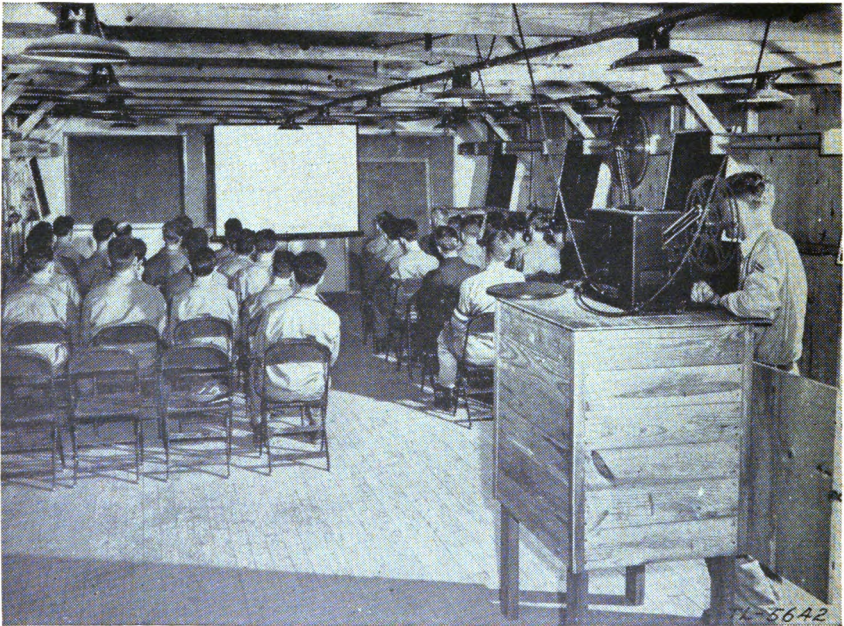

FIGURE 31.—Room prepared for projection.
11. **Screening.**—Rooms prepared for training film projection are shown in figures 31, 32, 33, and 34. Buildings in use as barracks make poor film theaters. Although seats are located in front, stoves interfere with projection and the acoustics are bad.